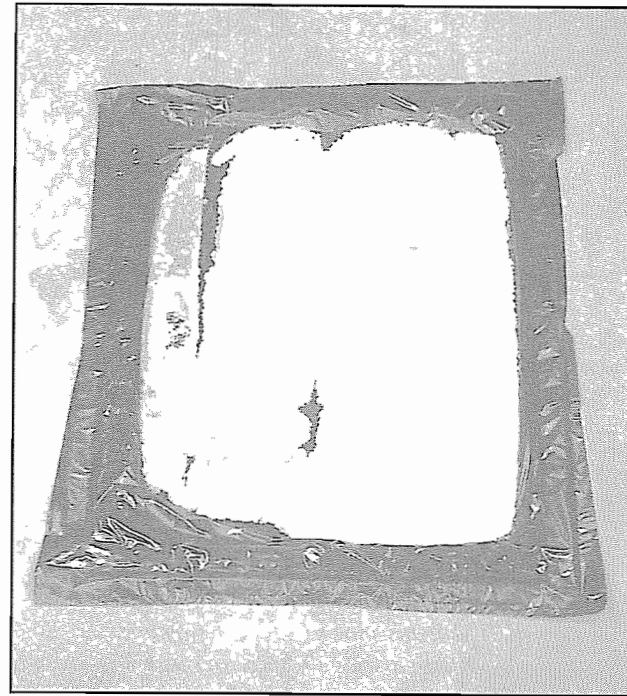

Figure 6-24. Homemade sodium nitrate crystals drying in the sun.
- Lay the sheet of plastic on a level surface outdoors, and elevate the edges with the four wooden boards. Then, *standing upwind, and still wearing the respirator*, pour the solution onto the plastic sheeting, and let it dry in the sun (Figure 6-24). Be careful when you do this, because the liquid contains a large amount of dissolved ammonia. It is *very* caustic and irritating to the nose, the skin, and the eyes.